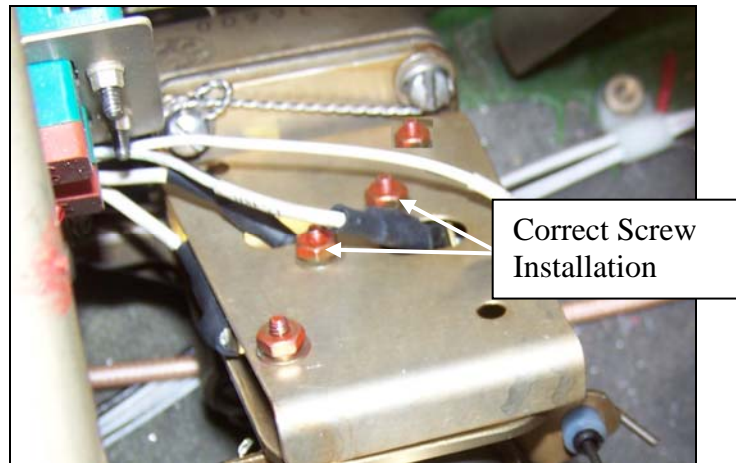
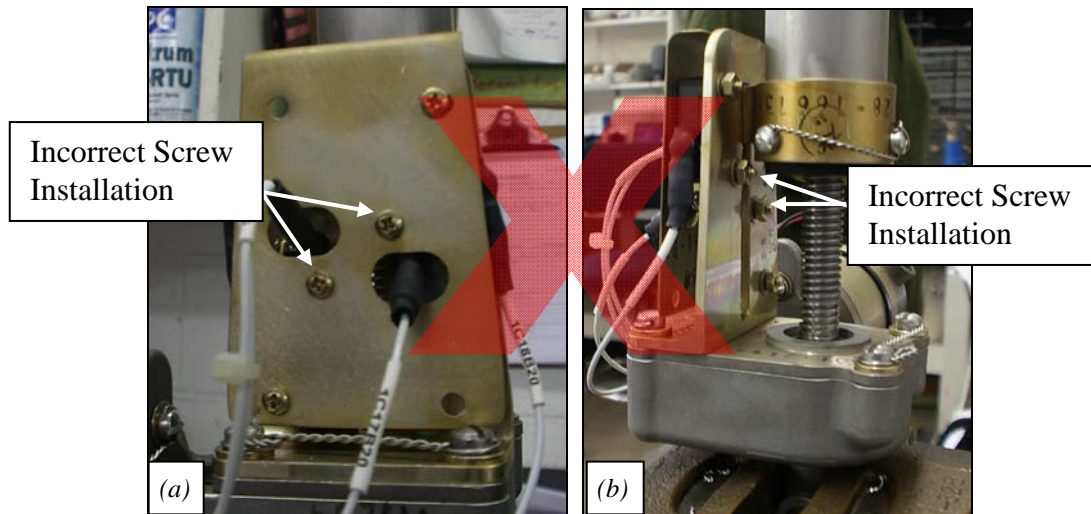

Figure 1. Properly Installed Screws – The heads of the inner screws face the spring capsule.
Figure 2. Improperly Installed Screws (a) (b) – The shanks of the inner screws face the spring capsule (b). (The trim actuator is removed from the aircraft.)
- 6.2 Inspect the lateral and longitudinal trim switch assemblies for the proper screw orientation. The screw shanks and nuts should be visible on the wiring side of the switch assembly (*Figure 1 and Figure 2*). The heads of inner screws should be facing the spring capsule.